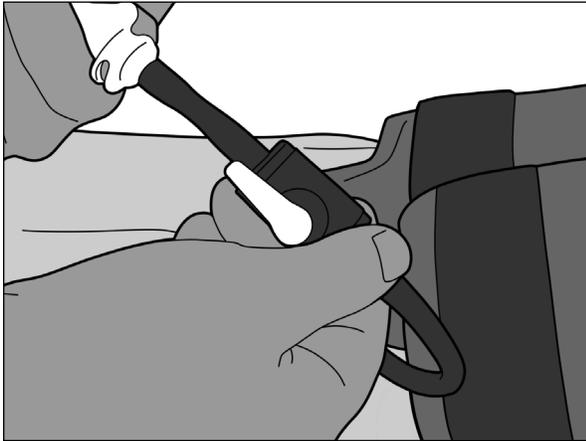

Fig. 18
5. After 2 minutes, open the valve by turning valve in-line with tubing (Fig. 18).